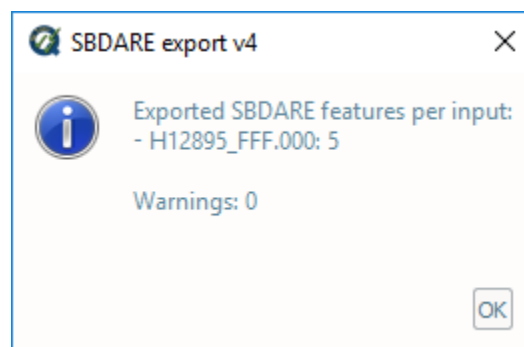

Fig. 2.30: SBDARE exports output message.
- After computing, the output window opens automatically, and the results are shown. Any errors that occur while processing will appear in the output message. (Fig. 2.30):